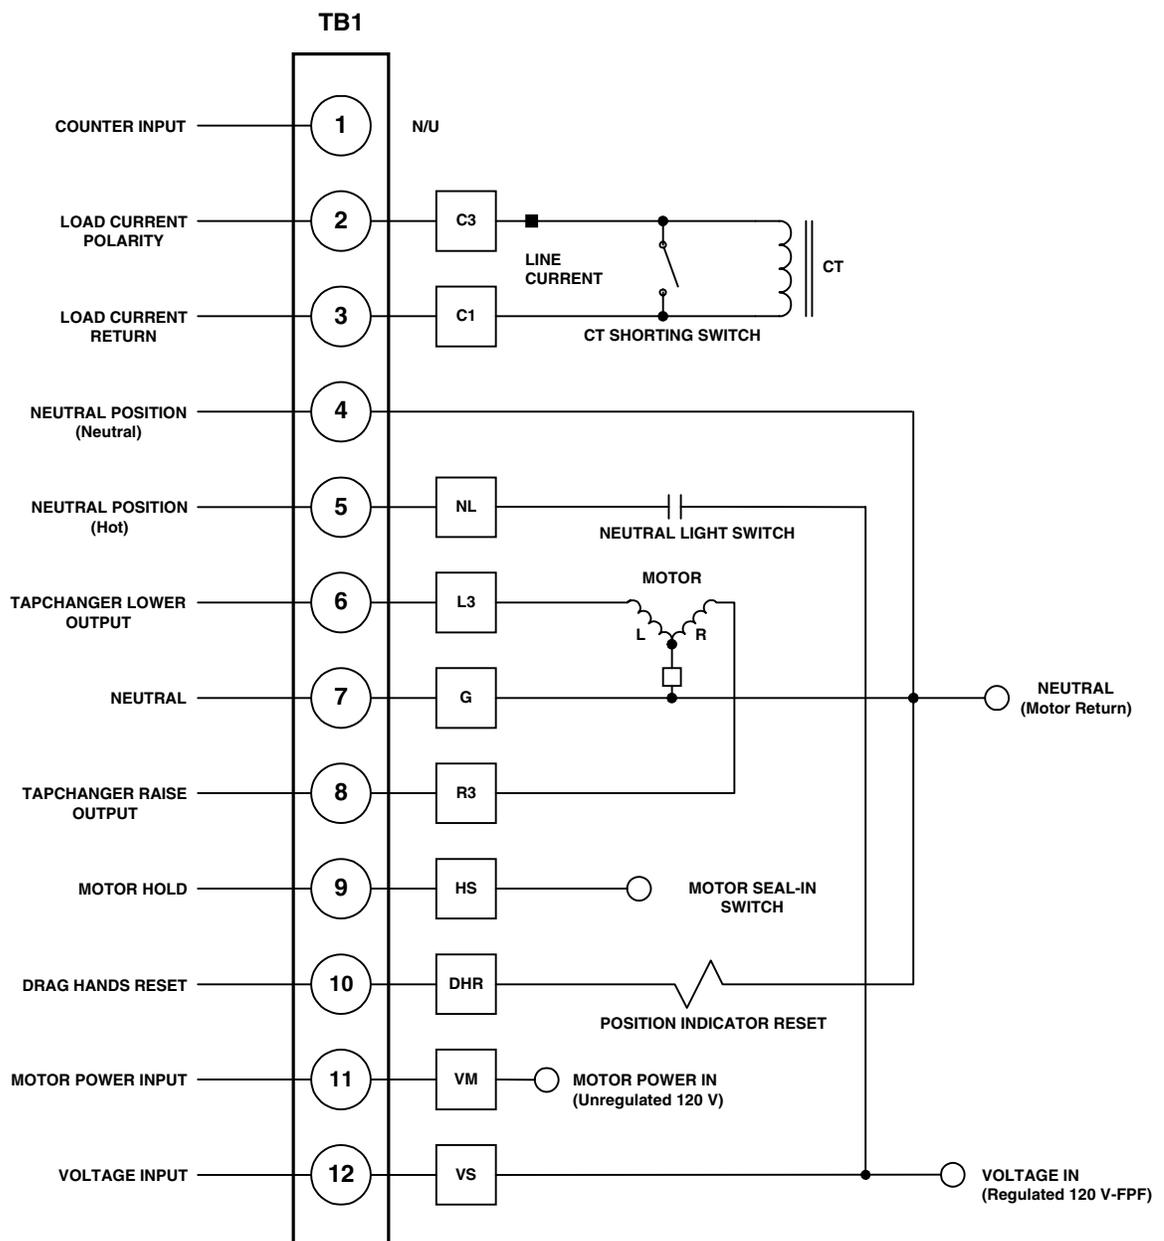

Figure 3-12 M-2603 External Connections
2. Connect the M-2603 wiring harness to the terminal block at the bottom of the cabinet. Refer to Figure 3-12 for wiring connections.